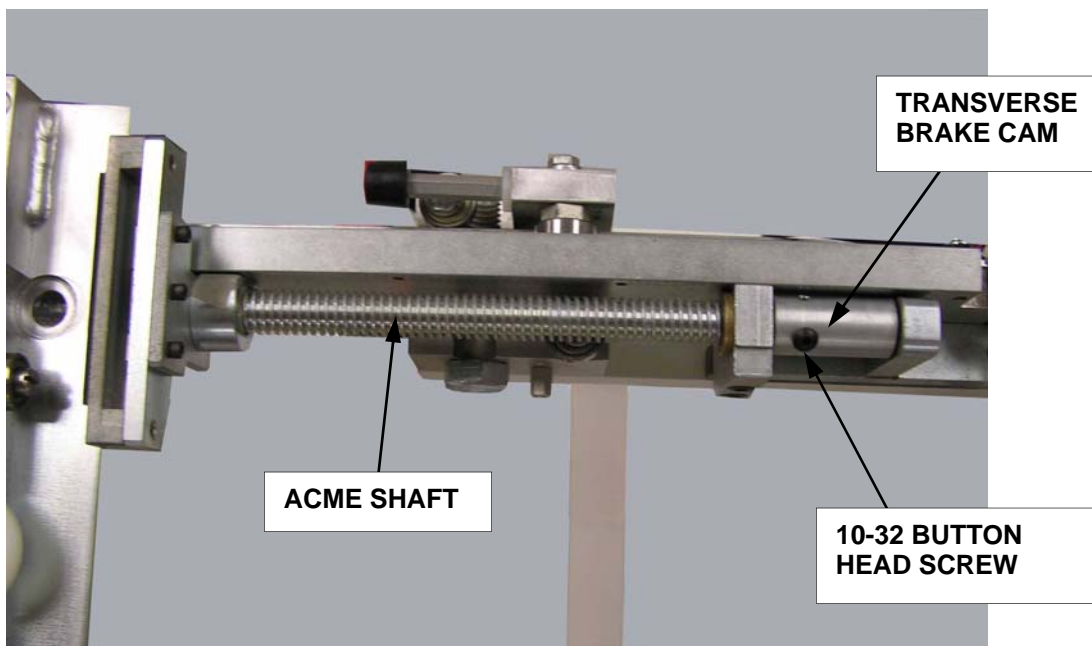

Figure 13. Replaceable Parts Location Diagram
1. Remove the 10-32 button head screw from the Transverse Brake Cam Sleeve (see Figure 13).